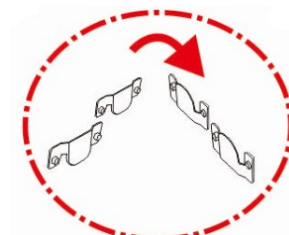

Figure 3
4. Using the brackets down the side of each module (Figure 3), connect the Left Arm and Left side of the 2 Seat Armless to one Console. Connect the Right Arm and Right side of the 2 Seat Armless to the remaining Console.